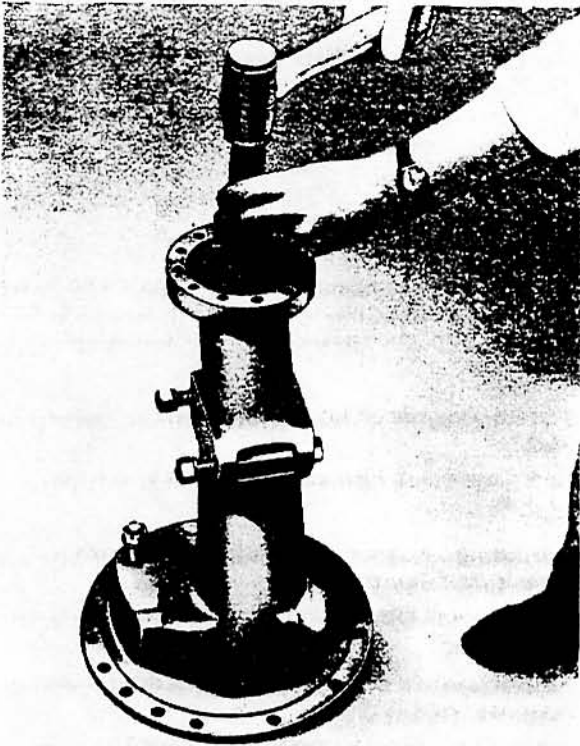

FIG. 24. USE OF M-F 176
3. Replace inner oil seal, using Service Tool M-F 176, as shown in Fig. 24.